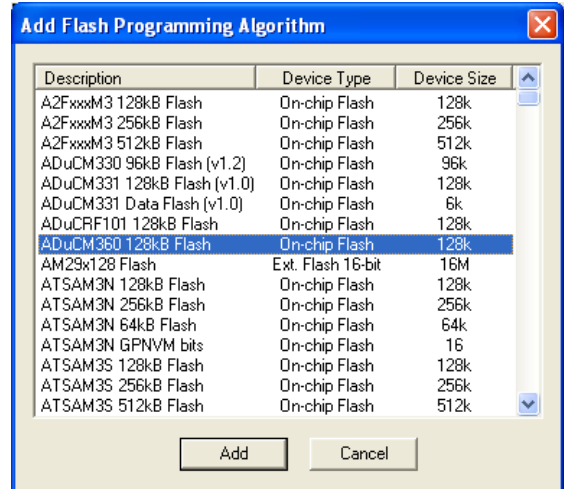

Figure 26. Add Flash Programming Algorithm
8. Select **Add** to display the window shown in Figure 26.